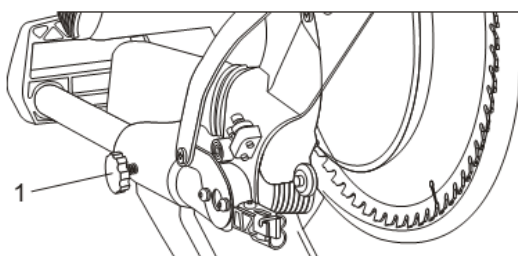

Fig. 16
1. To lock the slider, turn the slider locking knob (1) clockwise until the cutting head is locked into the rear most position (Fig. 16).